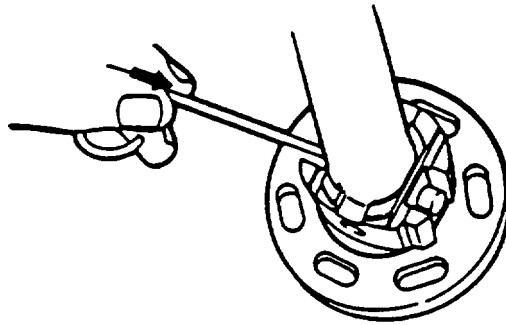

FIGURE 3-88. Removing Pumping Plungers (Typical)
- bf. Using brass pick, push two pumping plungers (29) from their bores, refer to FIGURE 3-88.